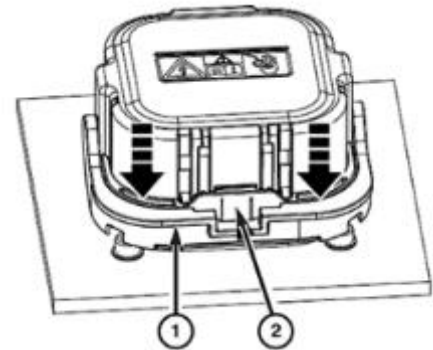

Figure 13 – MSD Installed
- f) Rotate the lever (1) downward until it is fully engaged and locked by the lever release latch (2). An audible “click” will be heard as the lever latches into position. Gently pull the high-voltage MSD upward to ensure that it is fully seated in the receptacle and locked. If the MSD is still able to be removed, repeat steps a – f (Figure 13).